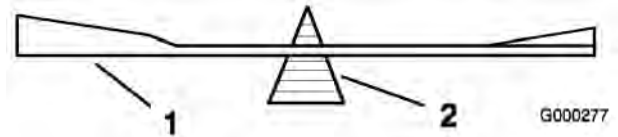

Figure 81
2. Check the balance of the blade by putting it on a blade balancer (Figure 81). If the blade stays in a horizontal position, the blade is balanced and can be used. If the blade is not balanced, file some metal off the end of the sail area only